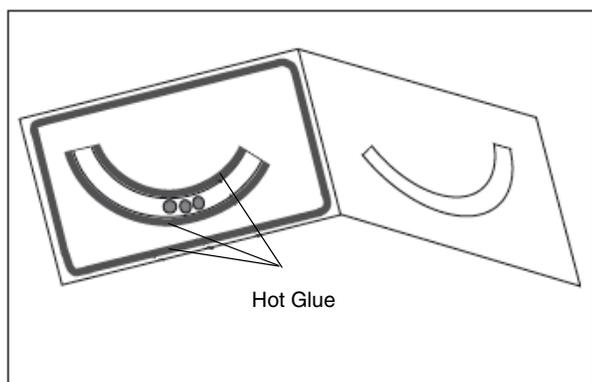

Figure 5: Using Hot Glue to Construct the Horizontal Accelerometer
1. One method for constructing the horizontal accelerometer makes use of the rapid set-up time of hot glue. Put the clear tubing in one half of the cardboard, insert the three BB's. Now put hot glue in the places indicated in Figure 5. Pressing the two halves of the accelerometer together results in a completed project (except for the straw which can also be hot glued on) 15 seconds later. NOTE: Do not get hot glue in the end of the tube as the BB's tend to stick to the glue.